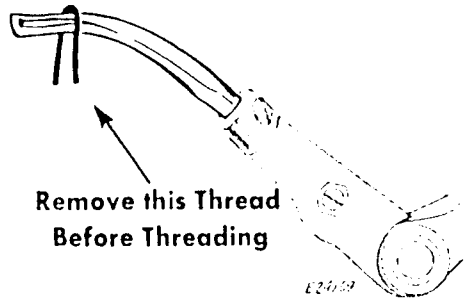

Fig. 10. Right Looper
**CAUTION:** When threading right looper, be sure that there is no loose loop of thread on end of looper (see Fig. 10) to cause thread breakage.